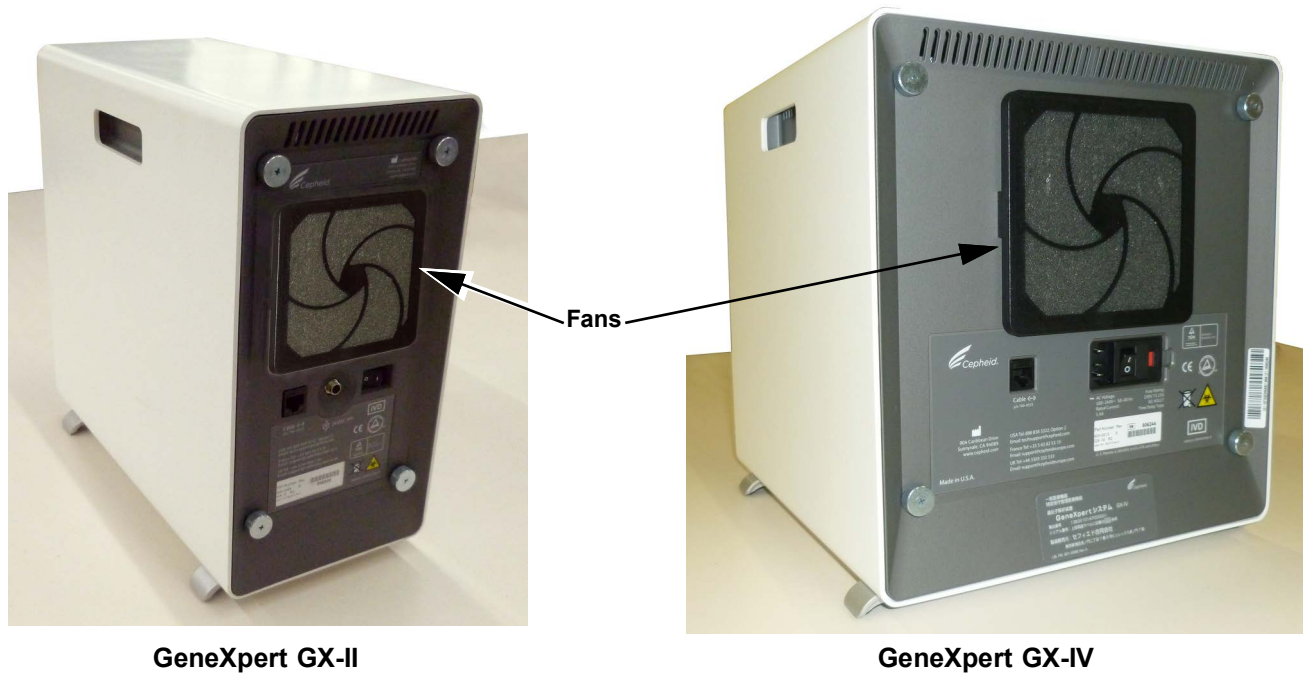

Figure 9-8. GeneXpert GX-II and GeneXpert GX-IV Instruments Positioned for Access to Fans
Clean the fan filters weekly or more frequently, if necessary if you operate the instrument in an area with high pollution, dust or smoke. Replace the fan filters quarterly, or more frequently if necessary. There is one fan filter on both the GeneXpert GX-II and the GeneXpert GX-IV instruments. Location of the fan filters is on the back of the instruments (see Figure 9-8). The materials needed for the procedure are as follows:
3. Reposition the instrument so the fan filter can be easily accessed. See Figure 9-8.
There are two styles of fan filters on the GeneXpert GX-II and GeneXpert GX-IV instruments. If the GeneXpert instrument has a rear panel such as the ones shown in Figure 9-8, the fan filters require the instruments to be unplugged from electrical outlets.
Clean the fan filters weekly or more frequently, if necessary if you operate the instrument in an area with high pollution, dust or smoke. Replace the fan filters quarterly, or more frequently if necessary. There is one fan filter on both the GX-II and the GX-IV instruments. Location of the fan filters is on the back of the instruments. See Figure 9-8. The materials needed for the procedure are as follows: